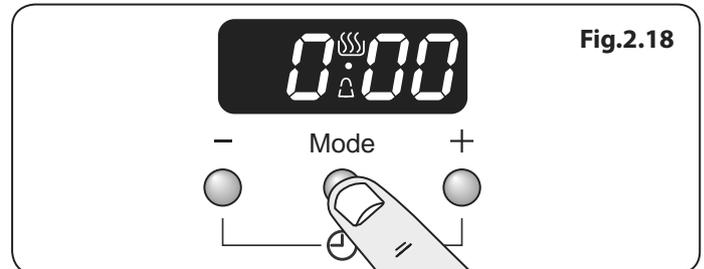
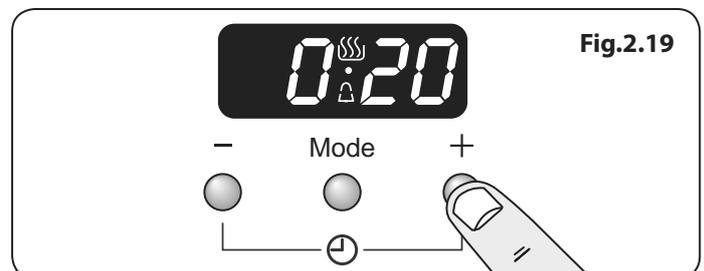

Fig.2.18
Fig.2.19
1. Press the mode [Mode] button once **(Fig.2.18)**. The bell symbol [🔔] will flash on the display. Select the desired countdown from 00:01h to 23:59h using the [+] or [-] buttons **(Fig.2.19)**. The countdown will automatically begin and the [🔔] symbol will show in the display.